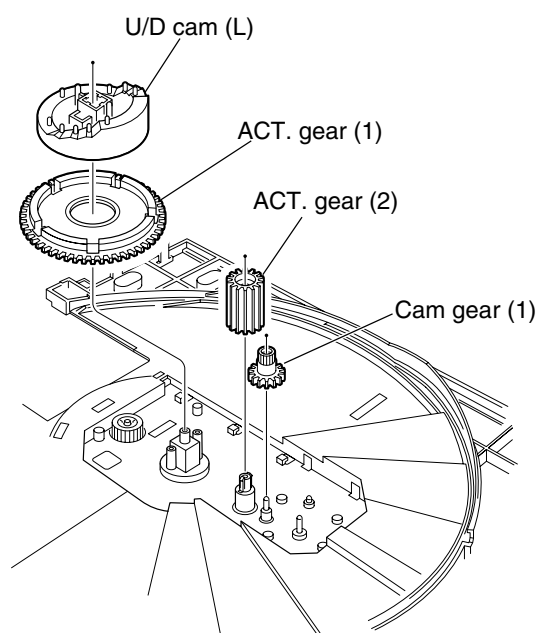

Fig.18
■ Removing the ACT. gear (1), U/D cam (L), cam gear (1) and ACT.gear (2) (See Fig.18 and 19)
- Prior to performing the following procedure, remove the main tray cover, the U/D cam (U) and the sub trays.
1. Draw out the U/D cam (L).
2. Draw out the ACT. gear (1).
3. Draw out the cam gear (1).
4. Draw out the ACT. gear (2) while pushing the two